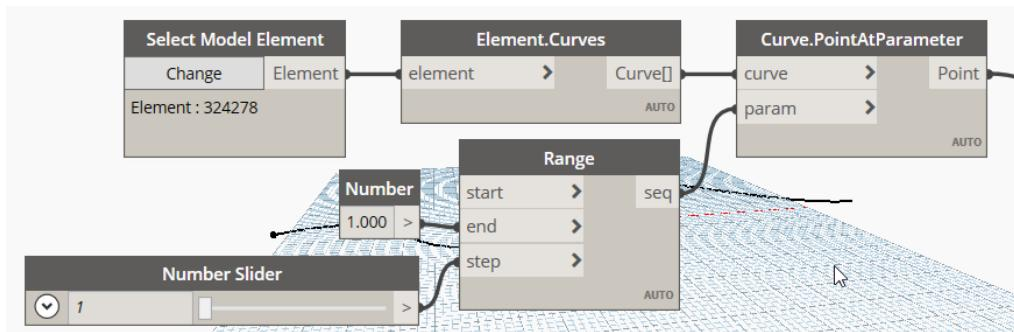

Figure 34
13. Rewire the graph to incorporate the **Range** node as shown in Figure 34. Be sure to change the value of the **Number** node to: **1**.